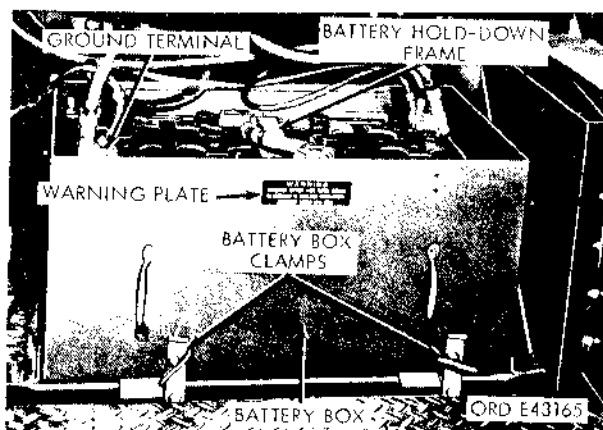

Figure 2-153. Battery installation.
- (1) Open the battery compartment door.
- (2) Loosen the wingnuts on both battery box clamps (fig. 2-153), and unhook the clamps from the box.
- (3) Pull the battery box assembly out onto the step, and disconnect the cable from the negative (—) terminal post to ground (fig. 2-153).
- (4) Disconnect all cables at the positive (+) and negative terminal posts on both batteries.
- (5) Remove the battery holddown frame. Lift both batteries out of the box (fig. 2-153).
- (1) Position the batteries in the box with the positive (+) posts toward the front of the vehicle, and secure the batteries with the holddown frame (fig. 2-153).
- (2) Connect interconnecting cable from the negative (—) post of the front battery to the positive (+) post of the rear battery.
- (3) Connect the batter-to-solenoid cable to the positive (+) post of the front battery.
- (4) Connect the ground cable from the frame to the negative (—) post of the rear battery.
- (5) Pack GAA grease around all terminal post connections.
- (6) Slide the box assembly into the battery compartment, tighten the clamps with two wing nuts, and close the compartment door (fig. 2-153).